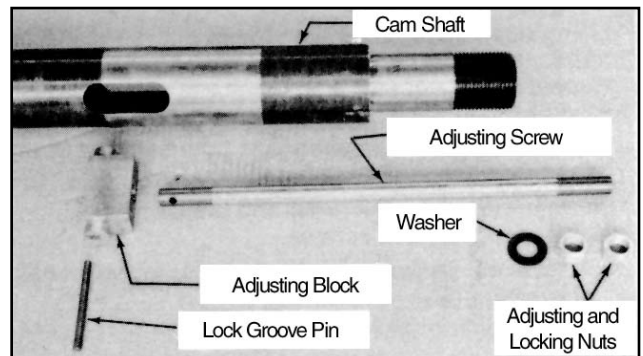

Figure 42
3. Figure 42 shows the components that make up the adjusting assembly.